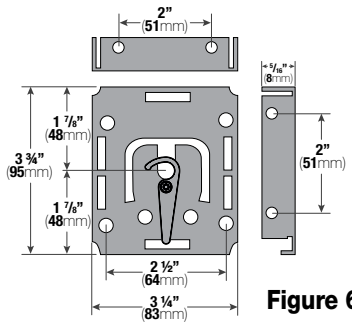

Figure 6
2. Mark wall, jamb or ceiling for placement of mounting endcaps (Fig. 6).